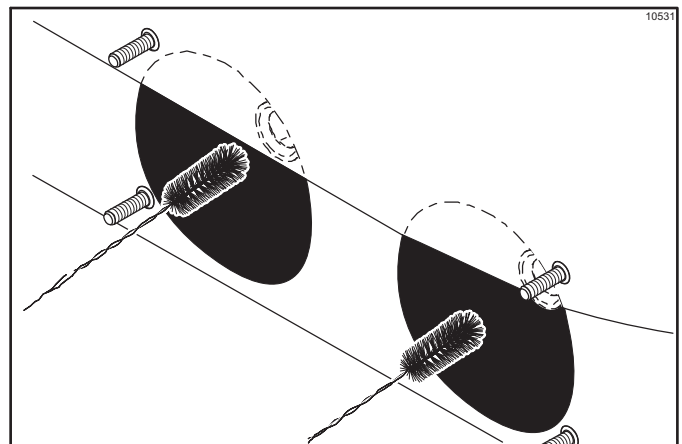

Figure 6-43
3. Return to the freezer with a small amount of cleaning solution. Using the black brush, clean the rear shell bearing at back of each freezing cylinder. (See Figure 6-43.)